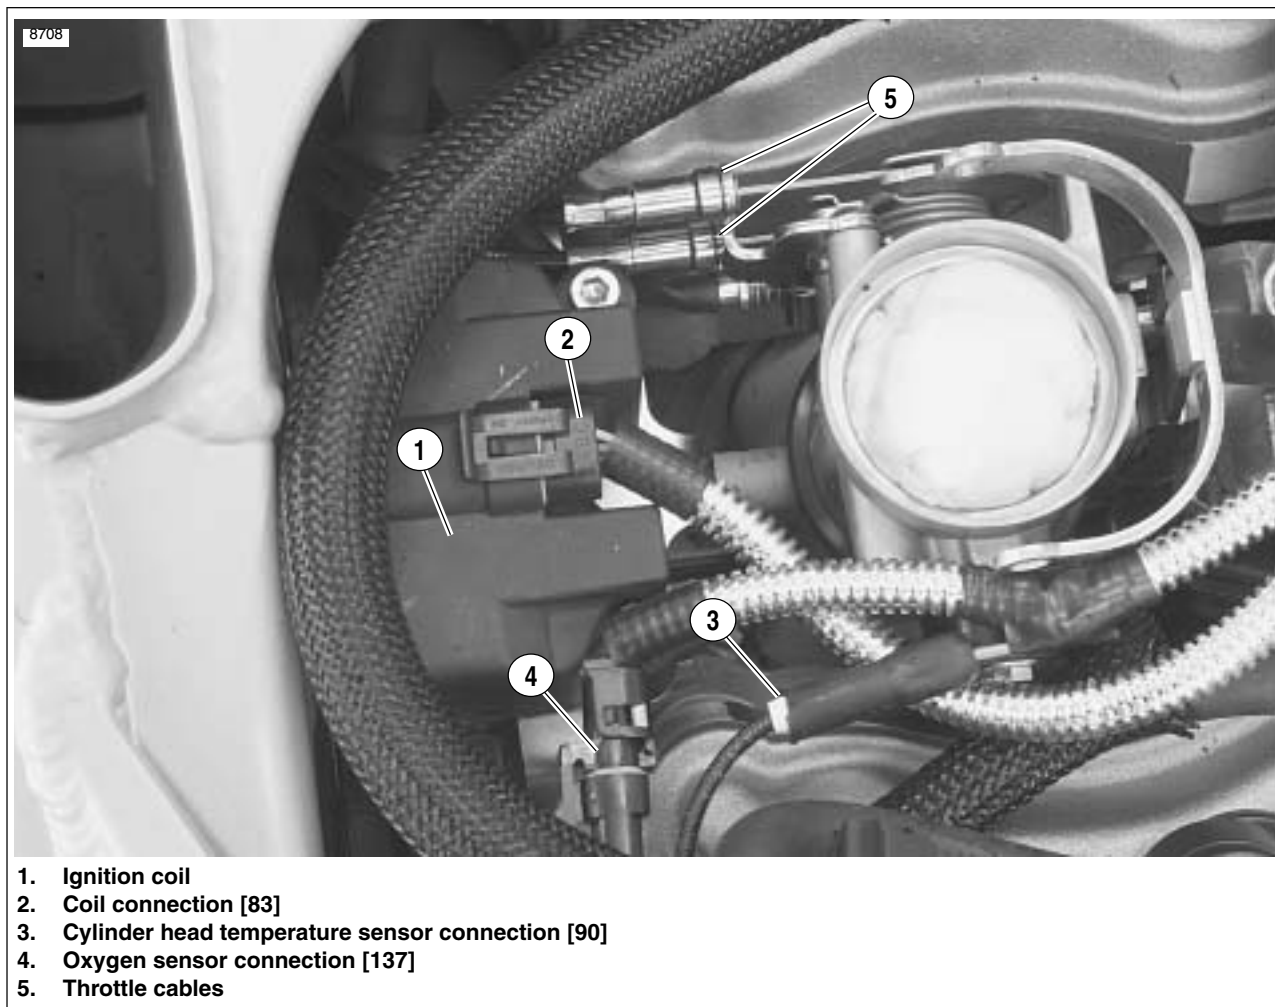

Figure 3-14. Electrical Connections and Throttle Cables
15. See Figure 3-14. Connect throttle cables from induction module/throttle body.
- a. Temperature sensor (3) [90].
- b. Oxygen sensor (4) [137].
17. See Figure 3-14. Install the ignition coil and connect (2) [83] and tighten fasteners to 120-144 **in-lbs** (13.6-16.3 Nm).